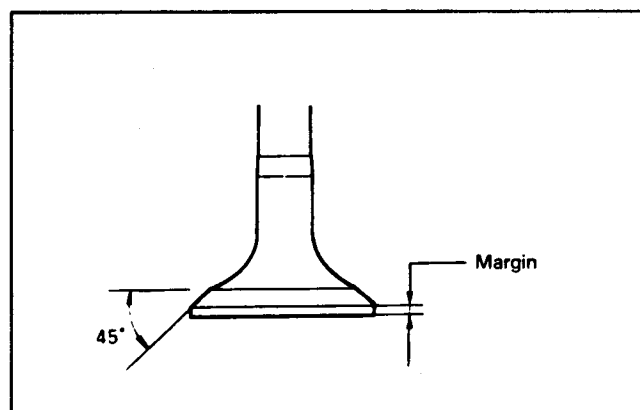

Figure 75
2. Check the valve face and valve stem for excessive wear, damage, cracks or deformation. If any of these conditions exist, the valve must be replaced. It is possible to reface the valve if the valve head thickness (margin width) is not less than the service limit (Fig. 75). If the margin of the resurfaced valve is less than the service limit, replace the valve.